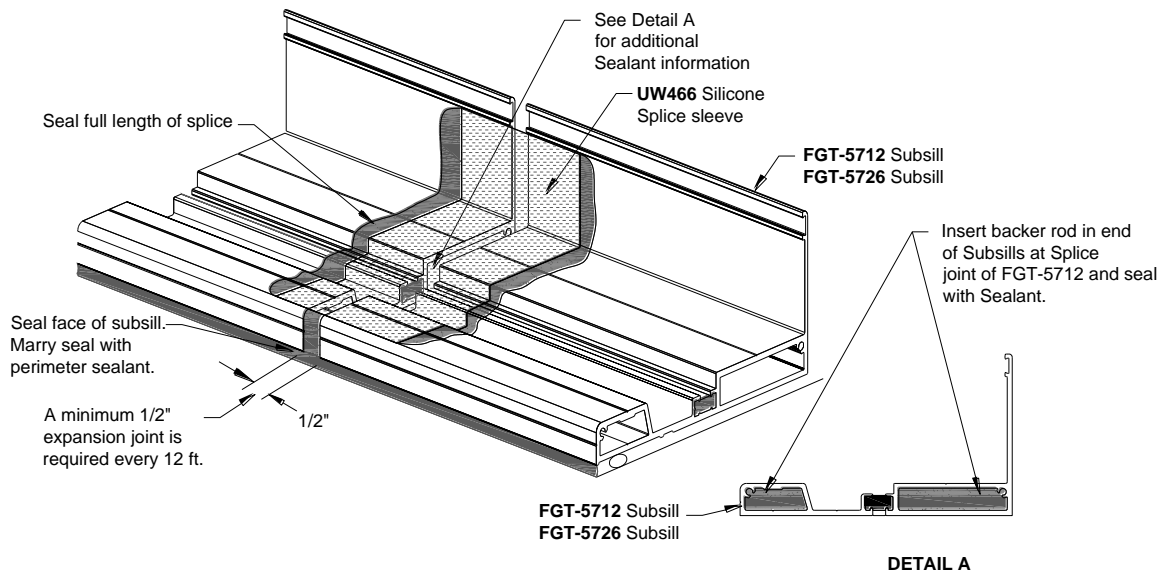

Figure 11: Subsill Splice Installation and Sealant
- 8.3 When required, insert Backer Rod and Sealant before applying Sealant to **UW466** Silicone Splice Sheet at all Subsill Splices, *Figure 11*.